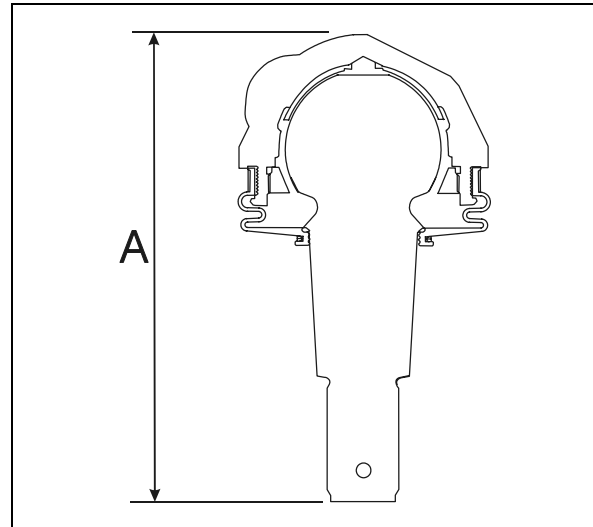

FIGURE 20: UPPER A-ARM CENTRAL BALL JOINT 16116
2. Using a caliper, measure dimension A on figure 20.